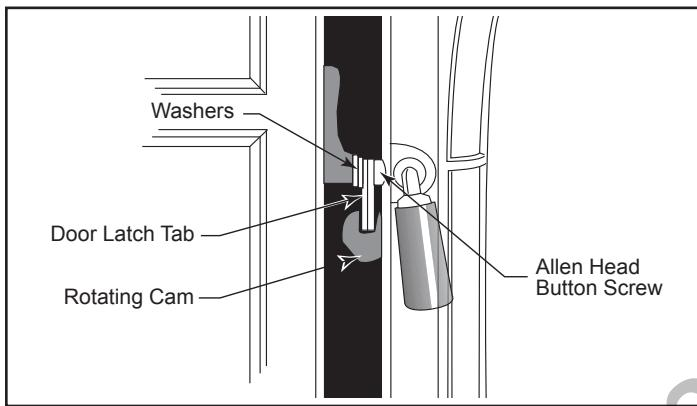

Figure 34 - The front door seal can be adjusted simply by adding or removing washers.
- Remove the Allen head button screw that attaches the door latch tab to the stove front. (Figure 34)